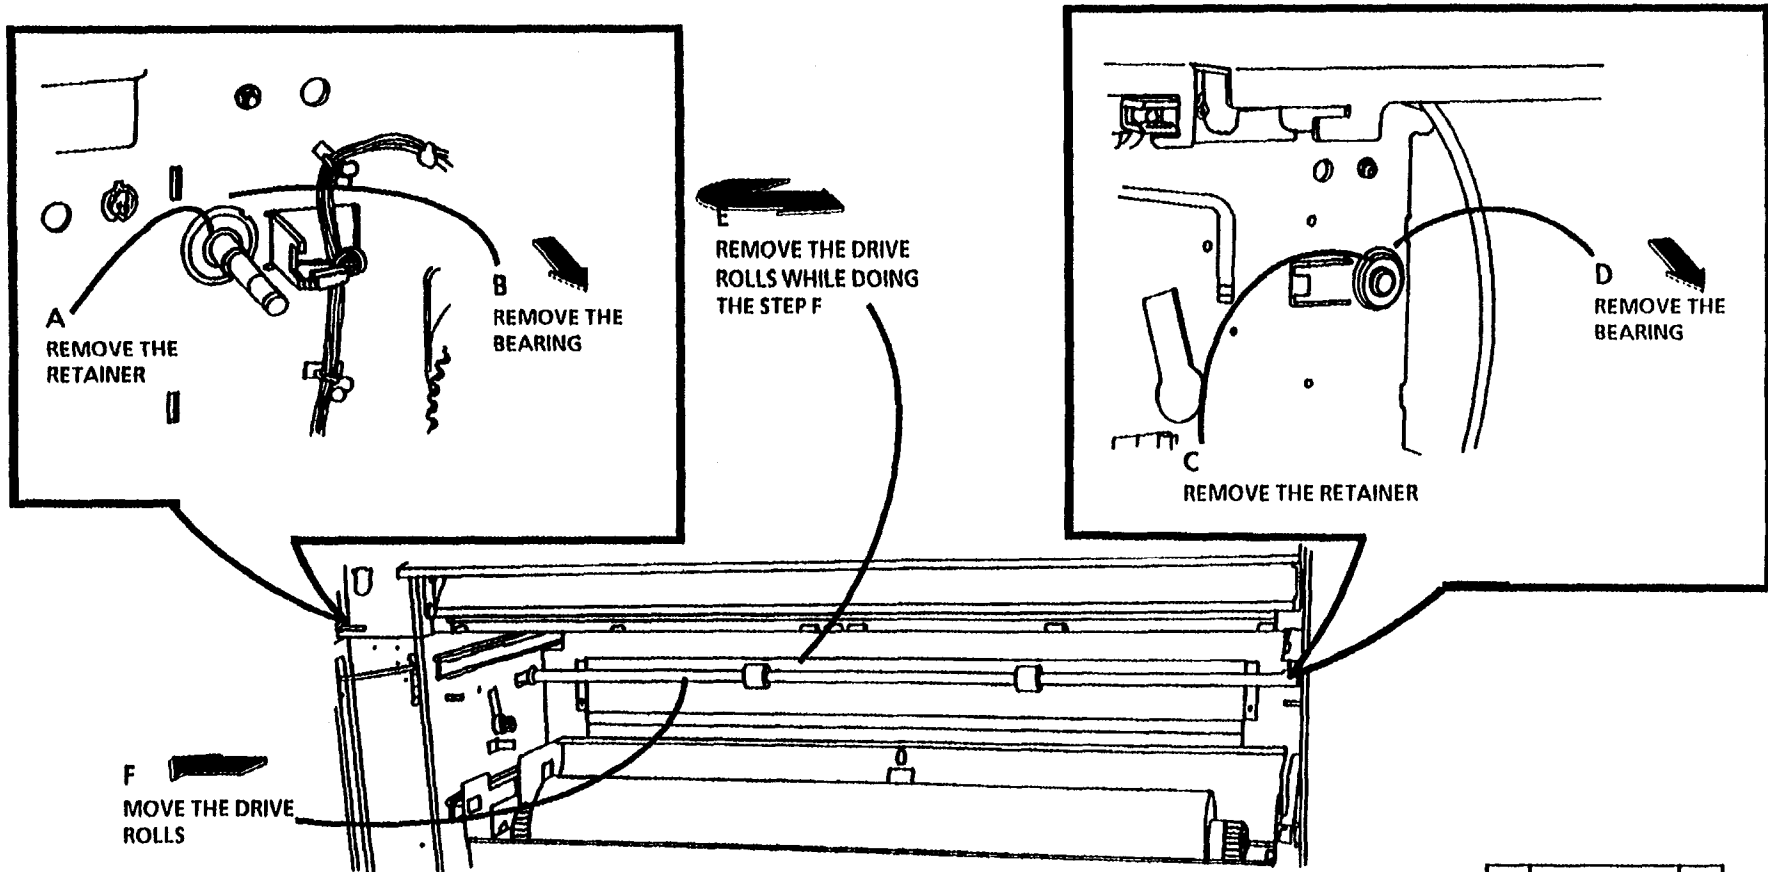

Figure 1. Remove the Roll Feed Drive Rolls
6. (Figure 1): Remove the Roll Feed Drive Rolls.